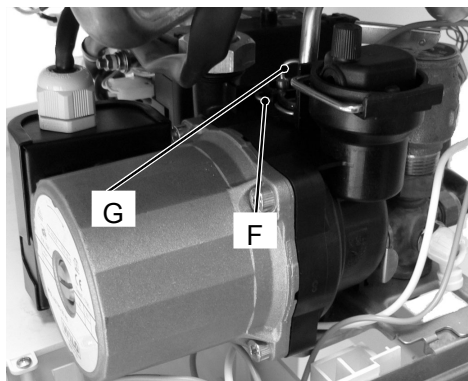

Figure 4
- 3) Remove the fork F and remove the probe G (Figure 4).